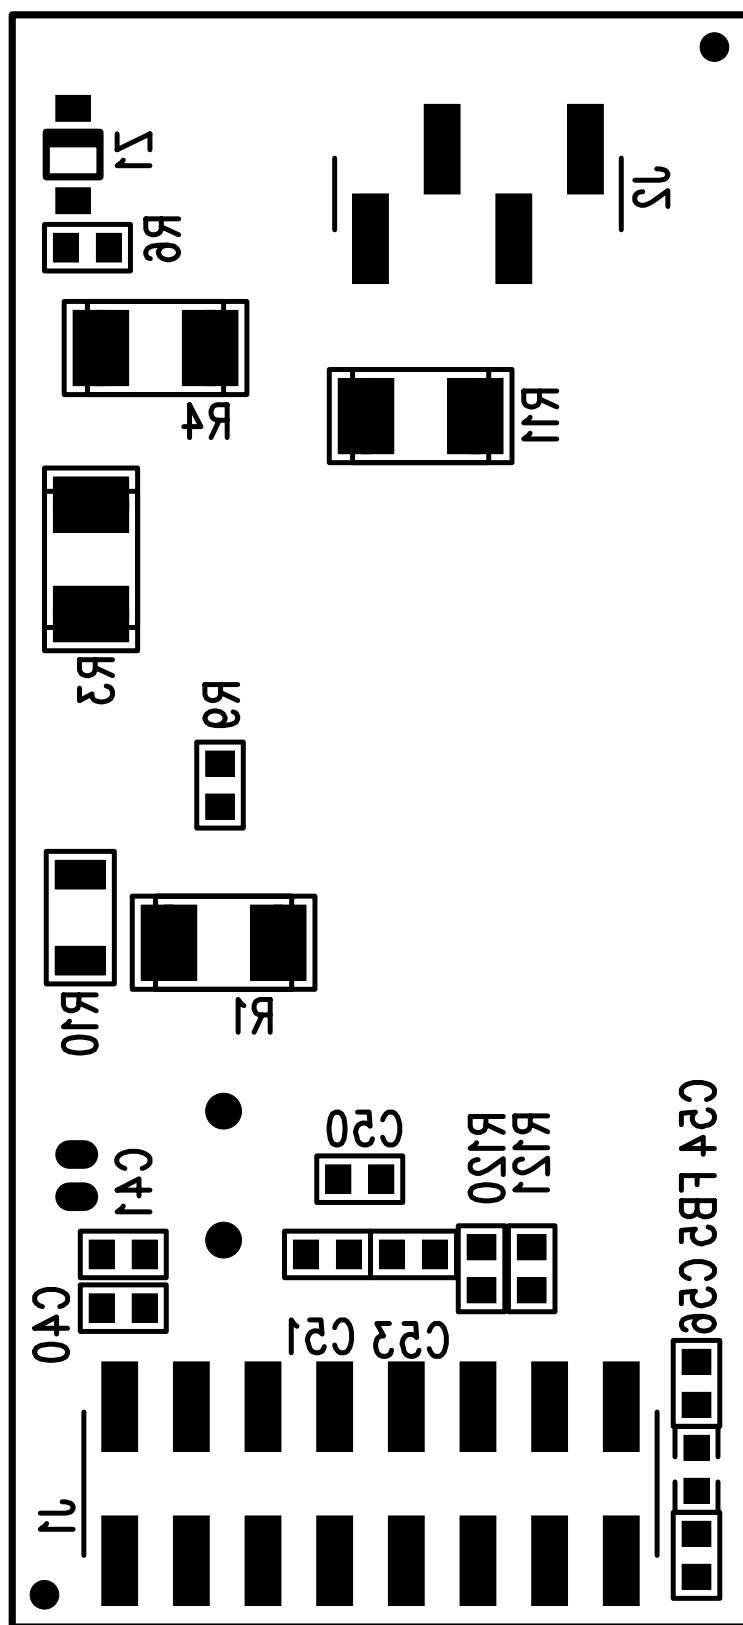

Figure 15. Daughter Card Secondary Side Silkscreen
- Updated Figure 15, "Daughter Card Secondary Side Silkscreen," on page 24.